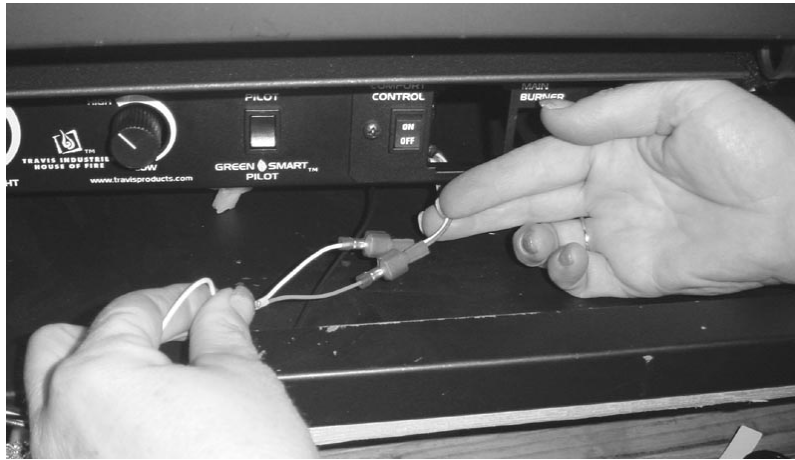

Figure 3
- 4 Connect the wires labeled ON/OFF on the Switch Box wiring harness to the on/off wires on the fireplace (see Figure 3).